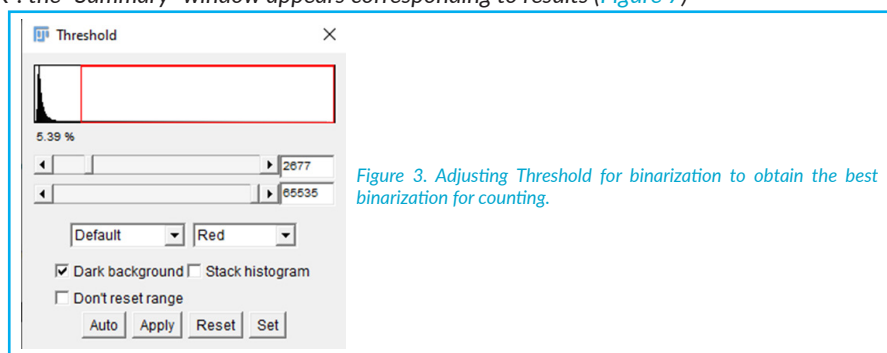

Figure 3. Adjusting Threshold for binarization to obtain the best binarization for counting.
- 7.3. Adjust the binarization with the "Threshold" window (Figure 3): Keep "Default and Red".
- 8.3. Adjust the binarization with the "Threshold" window (Figure 3): Keep "Default and Red".